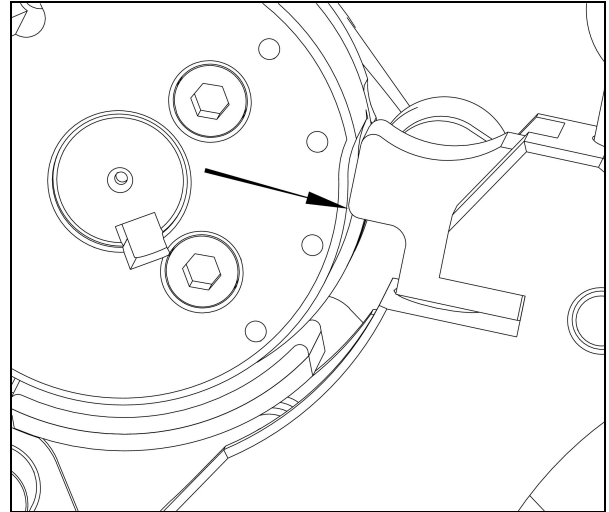

Fig 1
Unlock the machine again and turn the handwheel to lock up the machine. Watch the movement of the actuator (A) in relation to the stop bolt touching the stop wheel as shown in Fig 1. Lock up the machine. If the actuator (A) moves further inward, then adjust the eccentric (B) upwards to advance the timing.